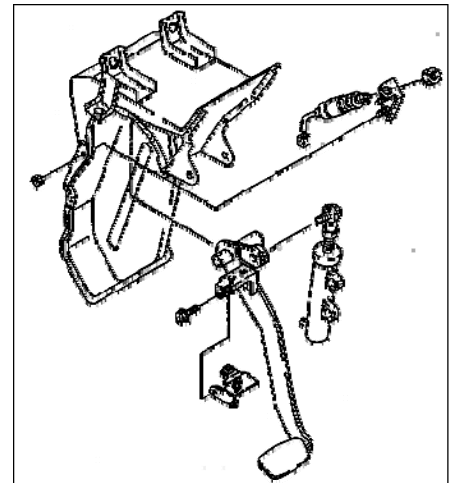

Fig. 6
5. Manual Transmission Only - Install the clutch pedal switch and related parts as shown in Figure 6. The clutch switch connector is taped to the instrument harness wiring loom.